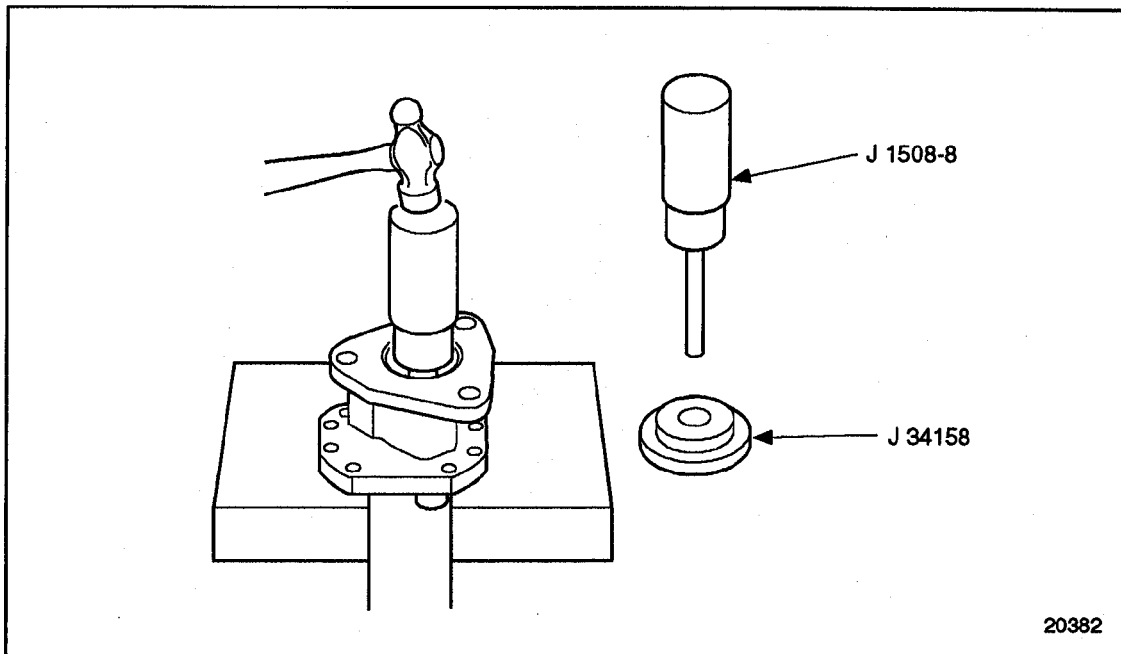

Figure 2-36 **Installing Outer Oil Seal**
5. Remove the installer and reverse the adaptor, placing the narrow end against the installer handle. See Figure 2-36.